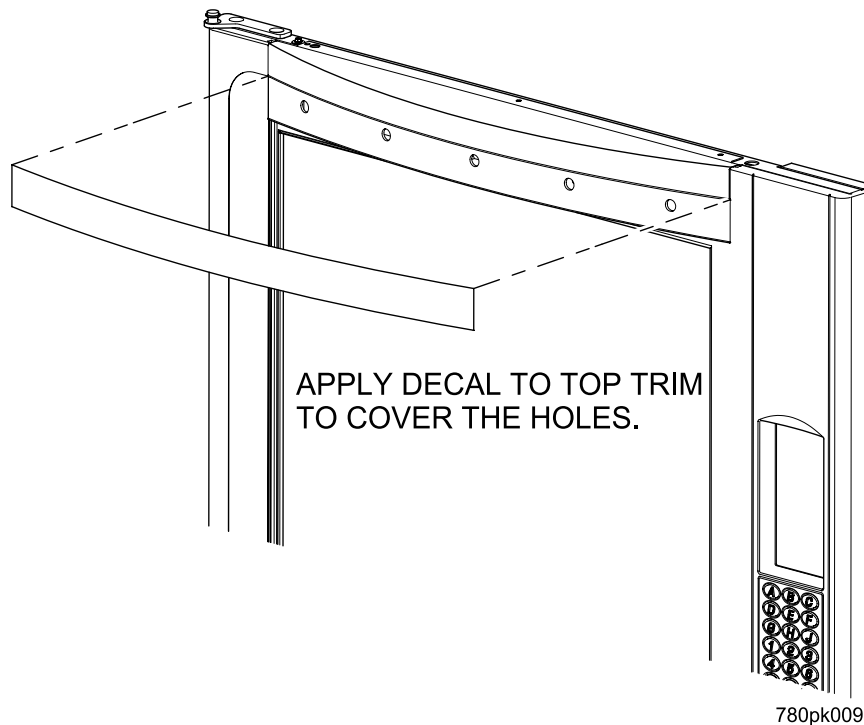

Figure 2
9. Place the decal part #7802129 over the screw holes on the Millennia trim piece (See figure 2).